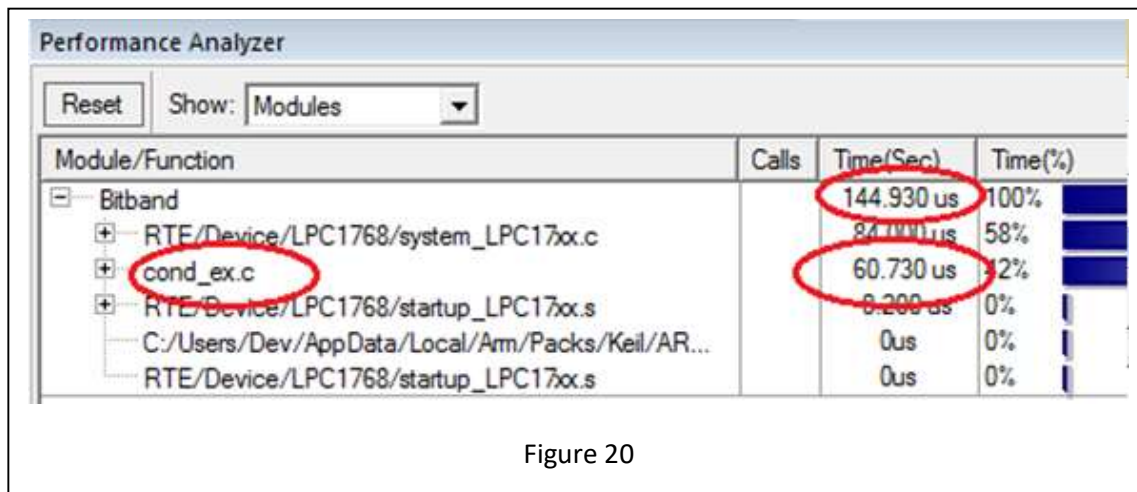

Figure 20
- Build the project with the new optimization level and enter debug mode. Place a breakpoint after `"int main(void) {"` and expand the xPSR register. Reset and run the code. Your code will halt at the breakpoint. From this point, step through the code to see the IT conditional code optimized by the compiler in the disassembler. Make note of how the xPSR registers change during execution of the IT block. Note the total execution time of the .c code and entire application with the base ---O3 / time optimization selected. (60.730us). See the performance analyzer in Figure 20.